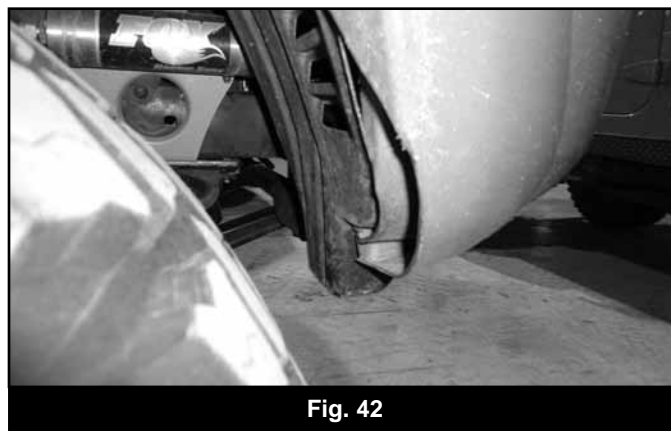

Fig. 42
94. Trim the front fascia to clear the tire. (Fig 42)